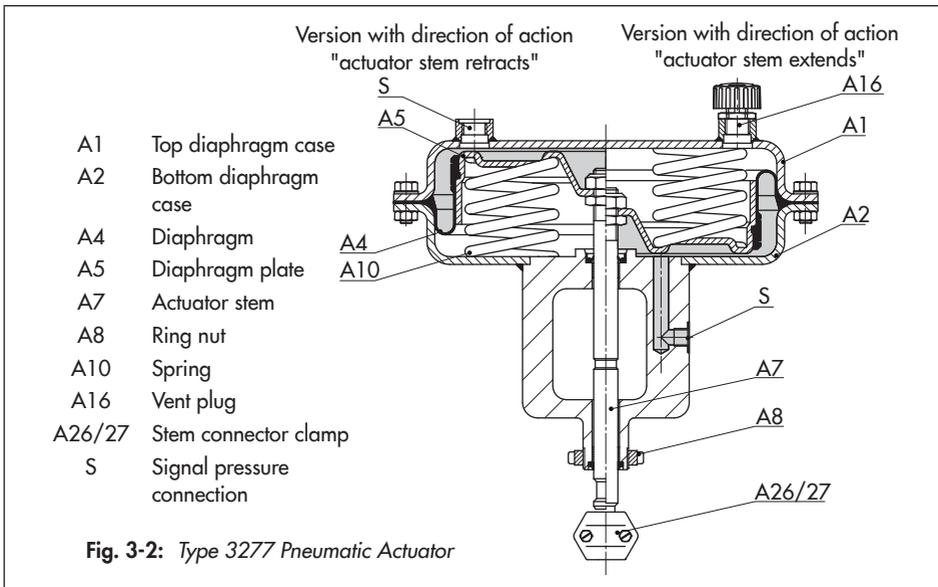

Fig. 3-2: Type 3277 Pneumatic Actuator
The principle of operation is the same as that of the Type 3271 Actuator. The Type 3277 Actuator is fitted with an additional yoke on the bottom diaphragm case (A2) (see Fig. 3-2). The yoke allows the direct attachment of a positioner and/or limit switch. The benefit of this design is that the travel pick-off located inside the yoke is protected against external influences.
In the "actuator stem extends" version (see Fig. 3-2, right), a signal pressure connection (S) is located on the side of the yoke which is connected to the bottom diaphragm chamber over an internal hole. The signal pressure moves the actuator stem upward opposing the spring force. A positioner can be connected using a connection block at this point. No additional piping to the actuator is required. Refer to the associated positioner documentation for more details.
ed through the top signal pressure connection (S) to the top diaphragm chamber and moves the actuator stem (A7) downward opposing the spring force (see Fig. 3-2, left).